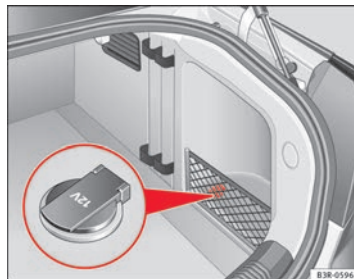

Fig. 125 Detailed view of the side trim in the luggage compartment: 12 volt socket
- Lift the power socket cover $\Rightarrow$ fig. 125.